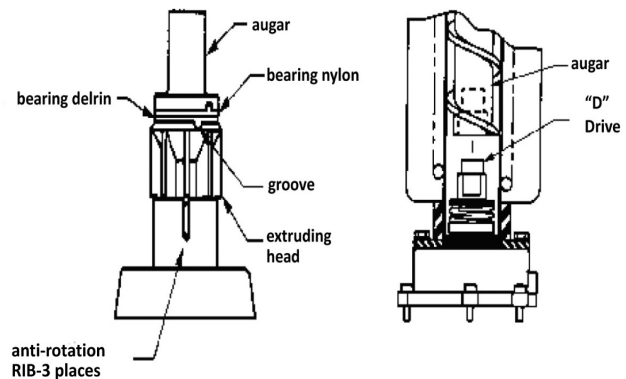

Figure 8. Auger and Extruding Head Removal
4. When replacing the auger assembly, make certain that both the auger engages the output shaft drive and the extruding head ribs engage the evaporator tube collar. See Figure 8.
The bearings are 3/32" thick. When they wear below 1/16" they should be replaced. Bearings to be inspected for wear during quarterly maintenance. See Figure 8.